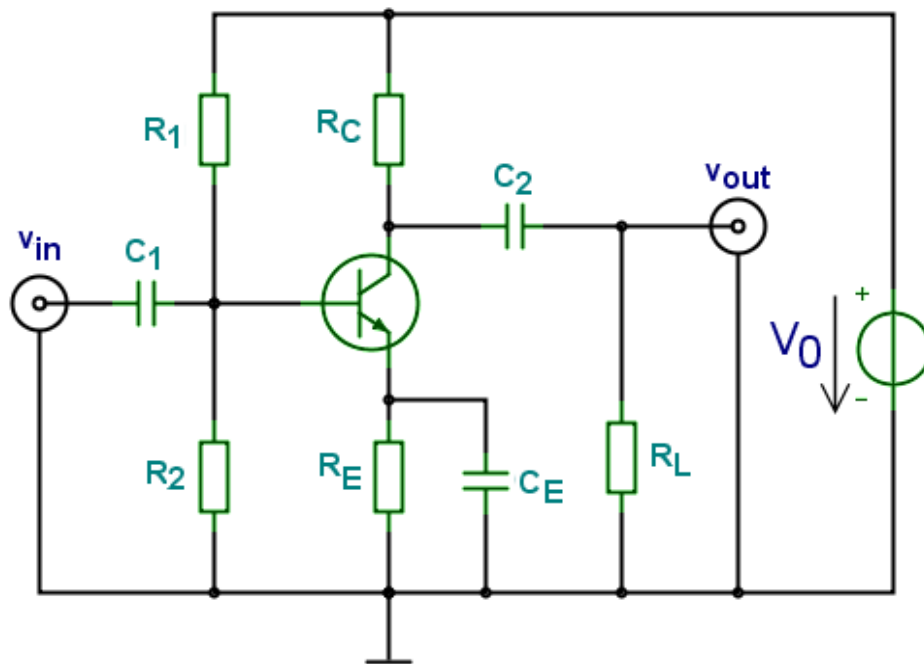

Figure 3.4: Complete measurement circuit of CE amplifier
3.2.3 Complete the rest of the circuit with the capacitors and load resistor, according to **figure 3.4**. Values: $C_E = 47\mu\text{F}/35\text{V}$ (it's an electrolytic capacitor which is polarity sensitive, its negative pole is noted on the package, take care when inserting it in the circuit); $C_1=C_2=100\text{nF}$ (ceramic or foil capacitors, these are polarity independent). The load is matched, that is $R_L=R_C$. Connect the point marked as v_{in} to the analog output of the function generator and also to the channel 1 (CH1) of the scope (use a T-junction and BNC-BNC cable). Connect v_{out} to CH2 of scope. It is recommended to use AC mode of scope. Make sure the trigger setting is EDGE.